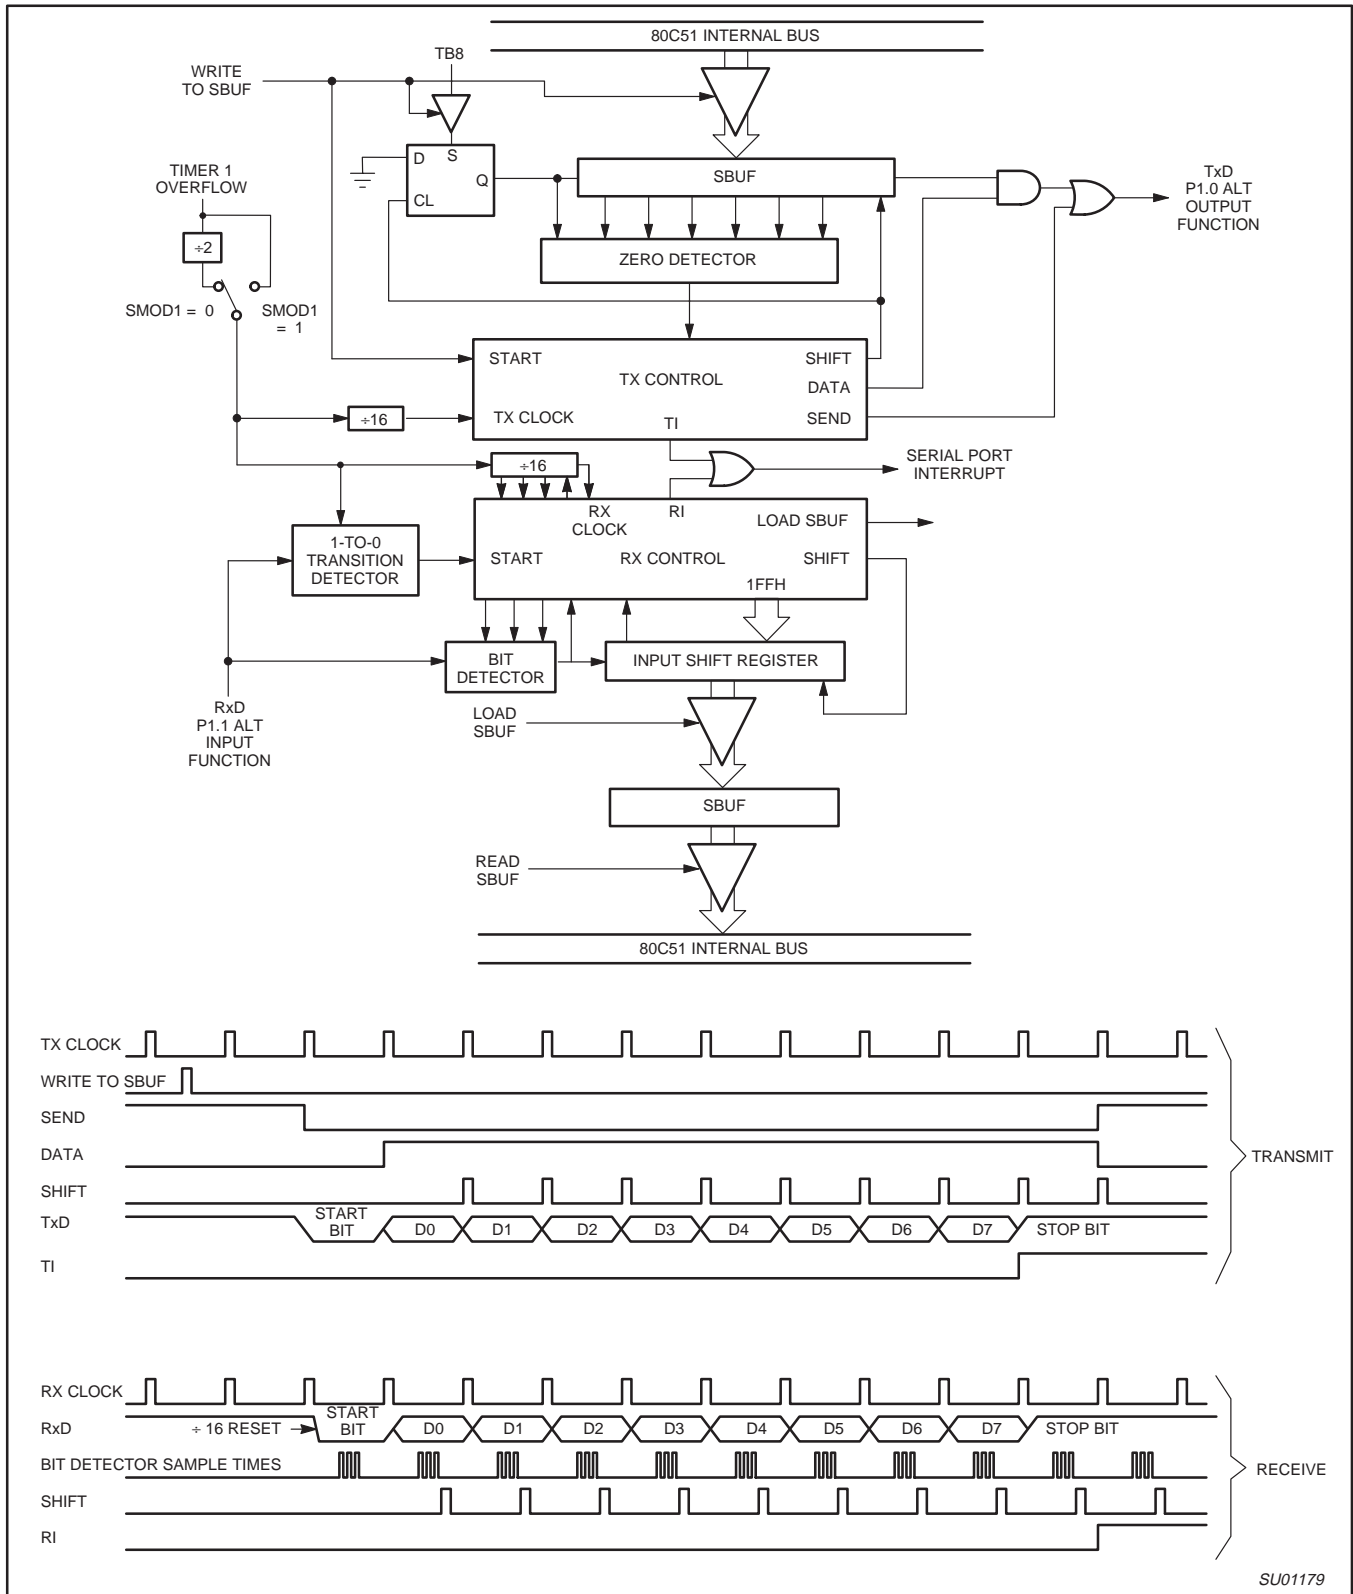

Figure 33. Serial Port Mode 1
Ten bits are transmitted (through TxD), or received (through RxD): a start bit (0), 8 data bits (LSB first), and a stop bit (1). On receive, the stop bit goes into RB8 in SCON. In the P87LPC769 the baud rate is determined by the Timer 1 overflow rate. Figure 33 shows a simplified functional diagram of the serial port in Mode 1, and associated timings for transmit receive.